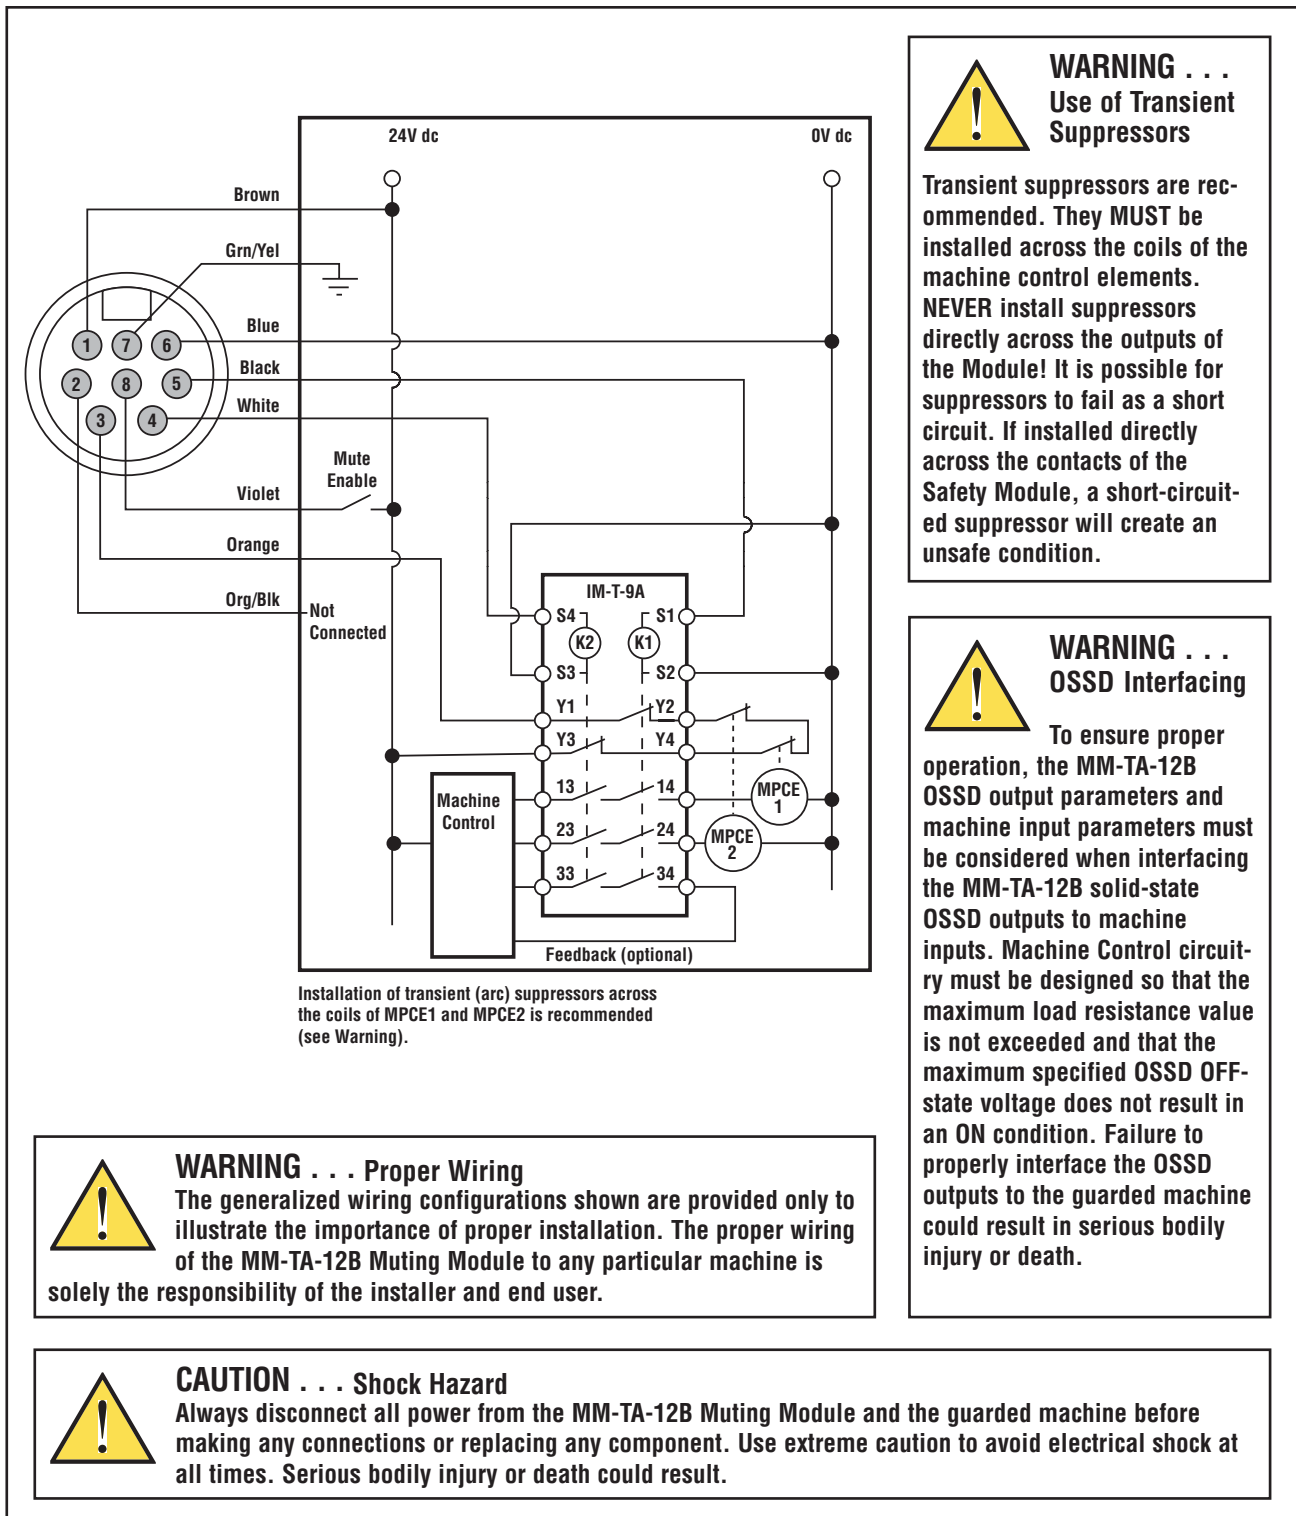

Figure 3-19. Generic hookup: interface module, one-channel EDM, Mute Enable
- **One-Channel Monitoring** — SW4 Bank A&B = OFF, SW5 Bank A&B = OFF (see Figure 3-19). NOTE: EDM #2 input must be left open.